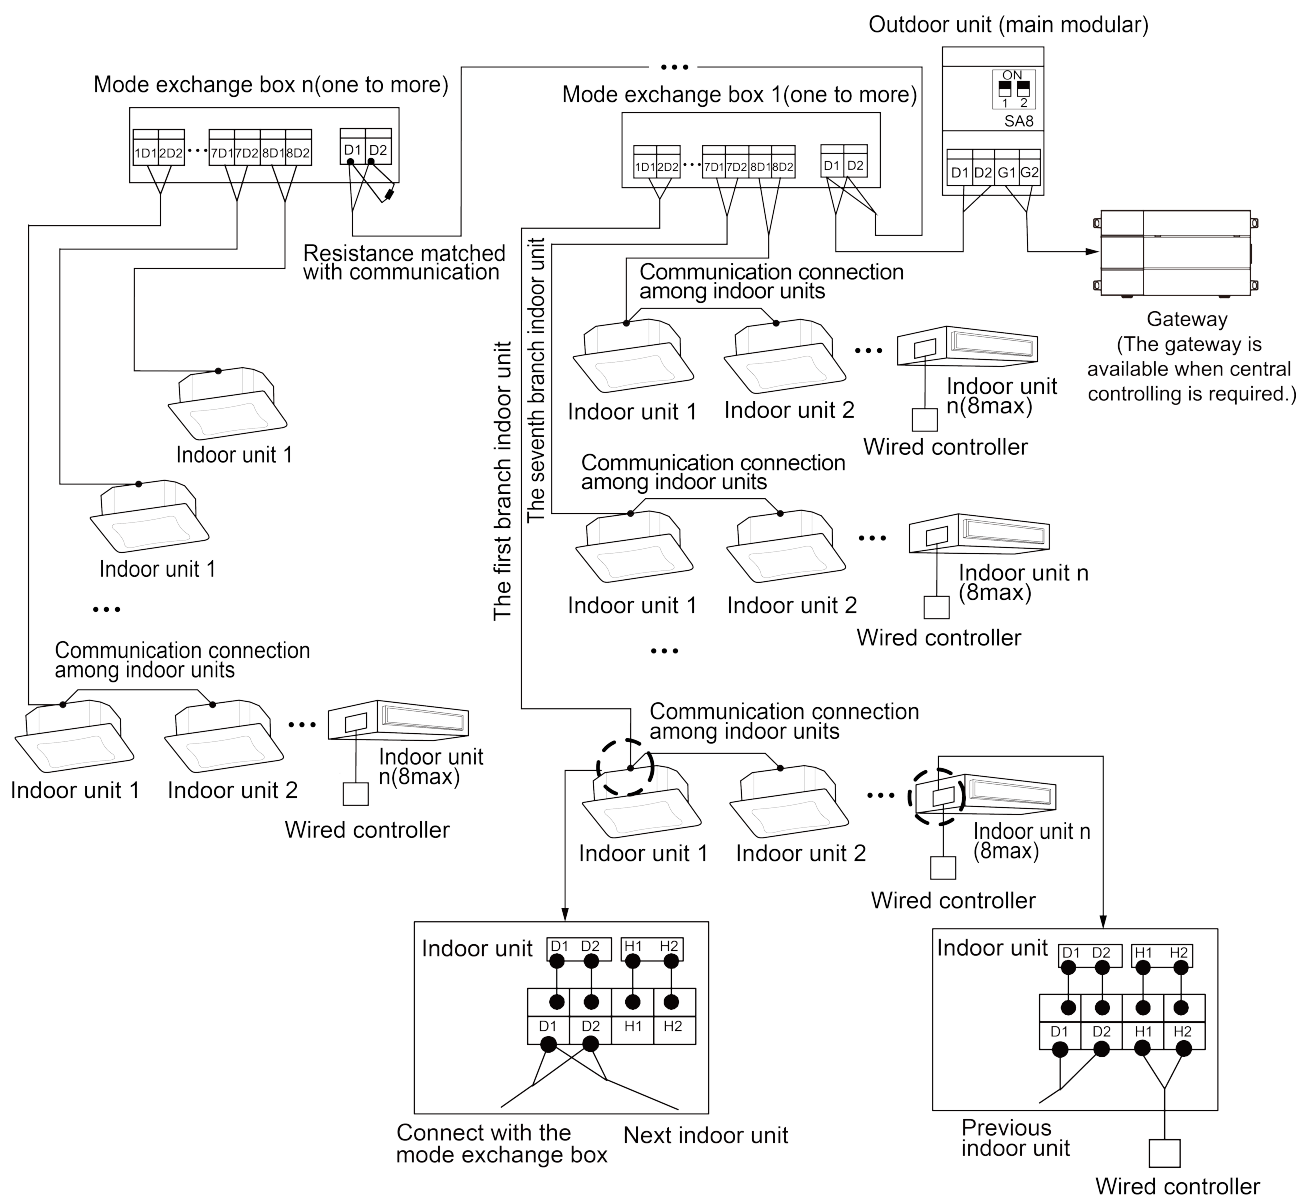

Fig.5.10
- (1) Open electric box cover of indoor unit.
- (2) Pass the communication wire through rubber ring.
- (3) Connect communication wire to wiring board OD(D1, D2) of outdoor unit of mode exchange box.
- (4) Connect communication wire lead from D1 and D2 terminal of 4-bit wiring board of indoor unit to wiring board ID1(1D1, 1D2) of indoor unit of mode exchange box; ID2(2D1, 2D2.....ID-n(nD1, nD2), $n \leq 8$, As shown in Fig.5.10